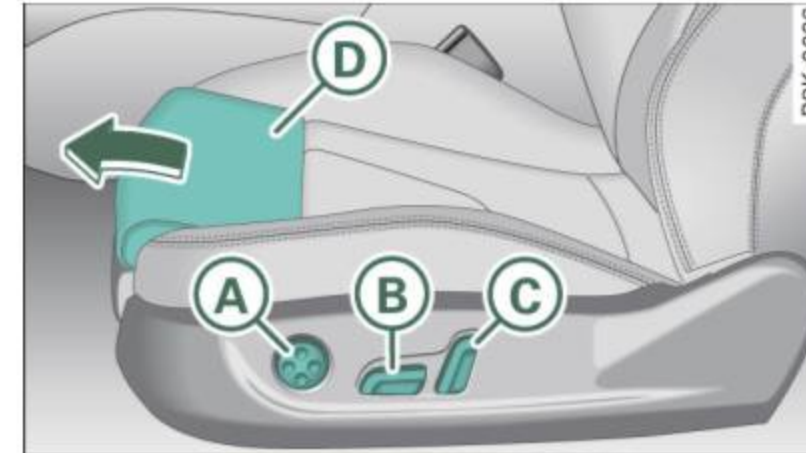

Fig. 77 Front seat:
- Push the switch  forward or backward ⇒ *page 81, fig. 77.*